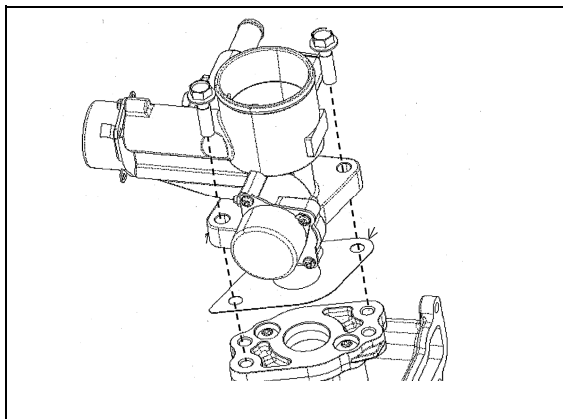

Fig. 1 - Removing ADAPTER
1. Remove two bolts and remove adapter Fig.1.